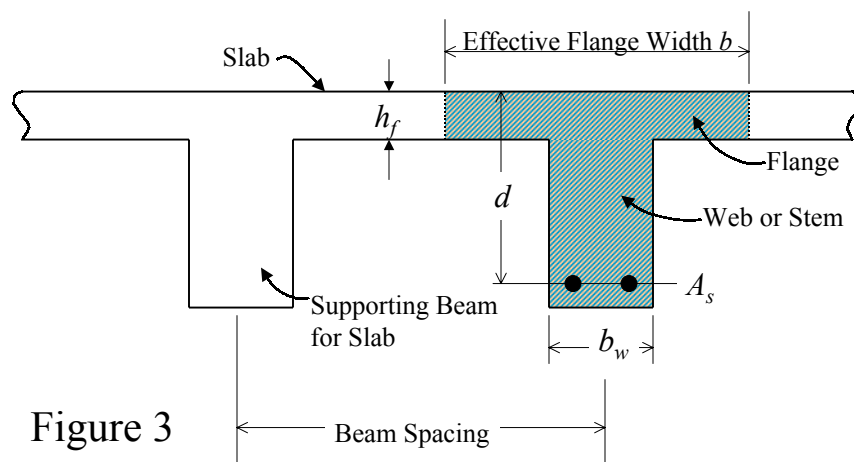

Figure 3
- As shown in Fig. 3, the slab becomes the compression **flange**, while the supporting beam becomes the **web** or stem.